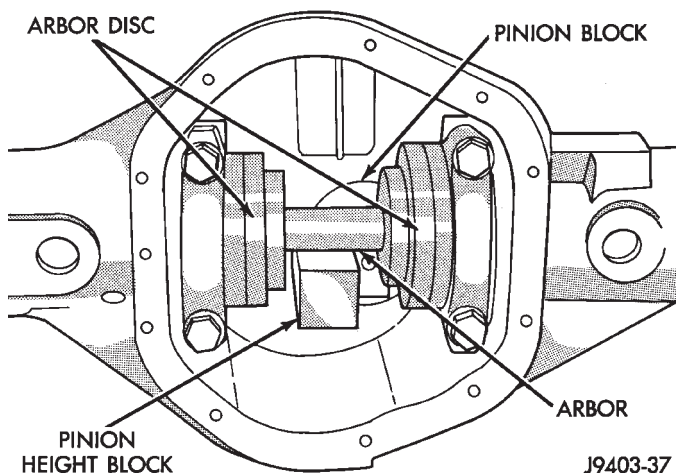

Fig. 71 Gauge Tools In Housing—Typical
(4) Place Arbor Disc 6927 on Arbor D-115-3 in position in axle housing side bearing cradles (Fig. 71). Install differential bearing caps on Arbor Discs and tighten cap bolts. Refer to the Torque Specifications in this section.